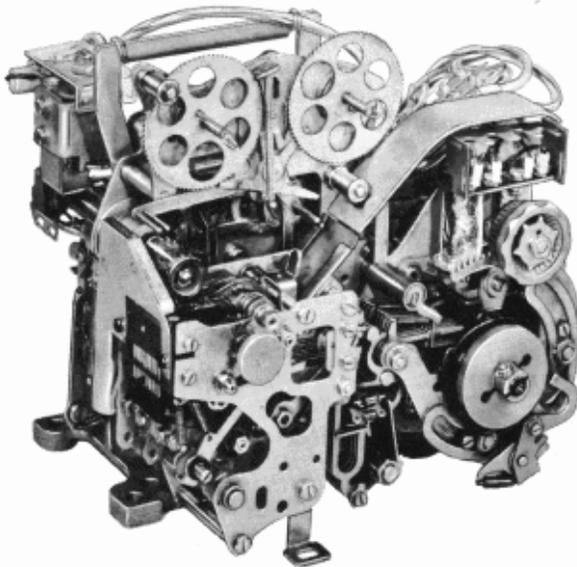

Figure 1 - Typical 35 Typing Reperforator
1.02 This section contains specific requirements and adjustments for the 35 Typing Reperforator (Fig. 1). The basic equipment includes selector mechanism, transfer mechanism, eight-level fully perforating punch mechanism, and printing mechanism. The printing mechanism includes letters-figures contacts and magnet and may include print suppression, remote control non-interfering rubout tape feed-out, end of feed-out timing contacts and power drive backspace mechanisms.